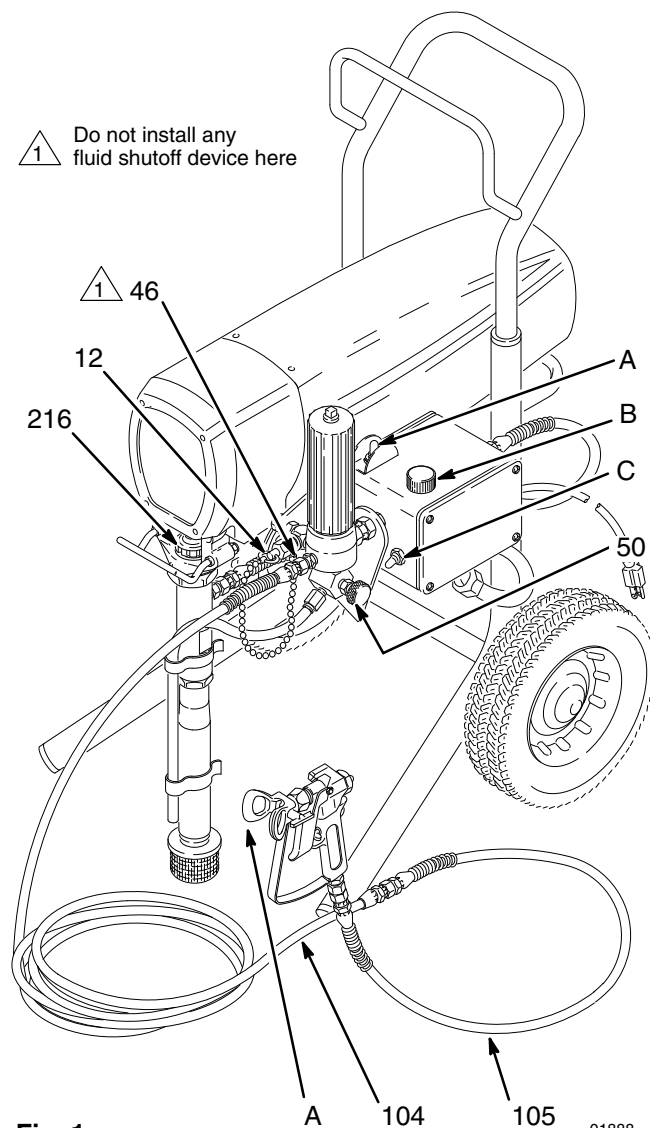

Fig. 1
3. Never install any shutoff device between the filter and the main hose. See Fig. 1.